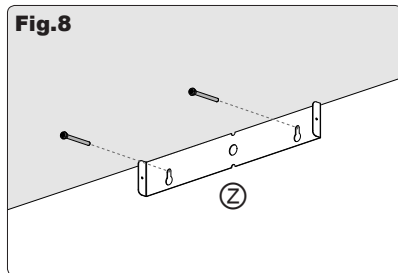

Fig.9
- Slide the upper chimney **E** towards the top, locking it in with the appropriate screws in the drill holes of the bracket **Z** previously affixed to the wall (fig.9).